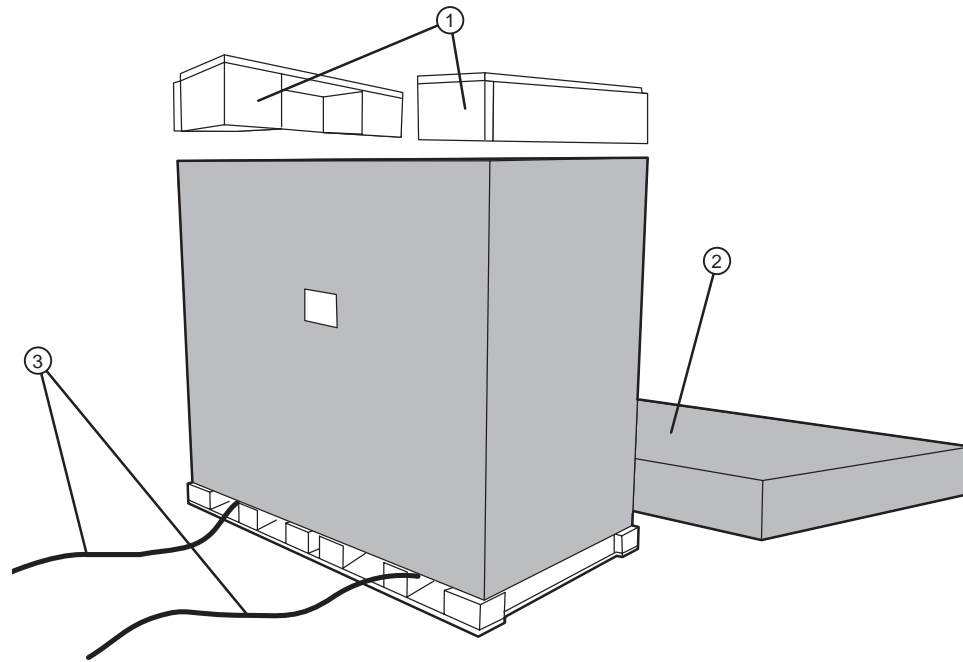

Figure 1-2 Removing the box, spacers and straps.
- ①—Box cover. ②—Shipping straps (2).
③—Shipping box.
2. Remove the two (2) foam spacers at the top. Refer to Figure 1-2.
4. Cut the shipping straps going around the unit frame. Refer to Figure 1-2.